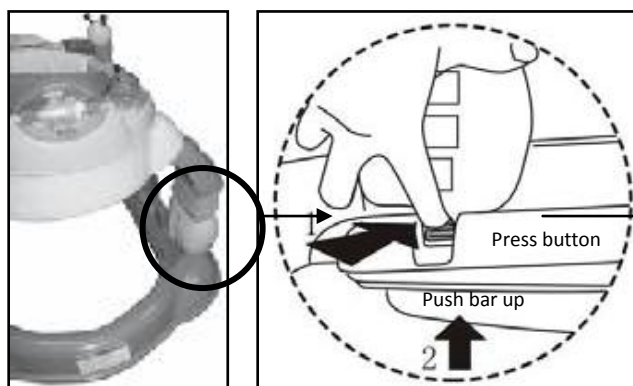

Figure 17
- To retract the rocking bar press the buttons on each leg's base and push the rocking bar up, as per **Figure 17**.